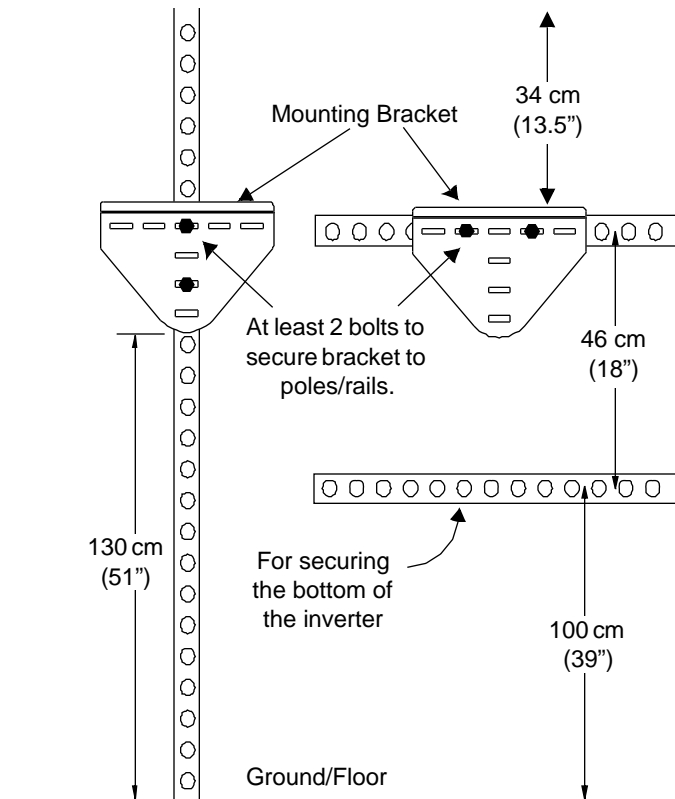

Figure 2-6 Examples of Mounting on a Pole or Rails
1. Ensure that poles or rails are securely assembled in place. If using horizontal rails, two rails are required: one for the mounting bracket and another for securing the bottom edge of the inverter (see Figure 2-6).